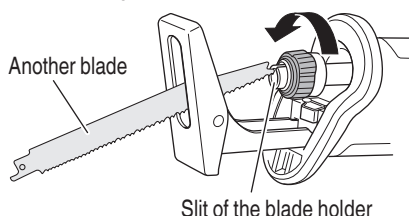

Fig. 10
- (1) If a part of the broken saw blade is sticking out of the slit of the blade holder, pull out the protruding part and take the blade out.
- (2) If the broken saw blade is hidden inside the slit, hook the broken blade using a tip of another saw blade and take it out. (Fig. 10)